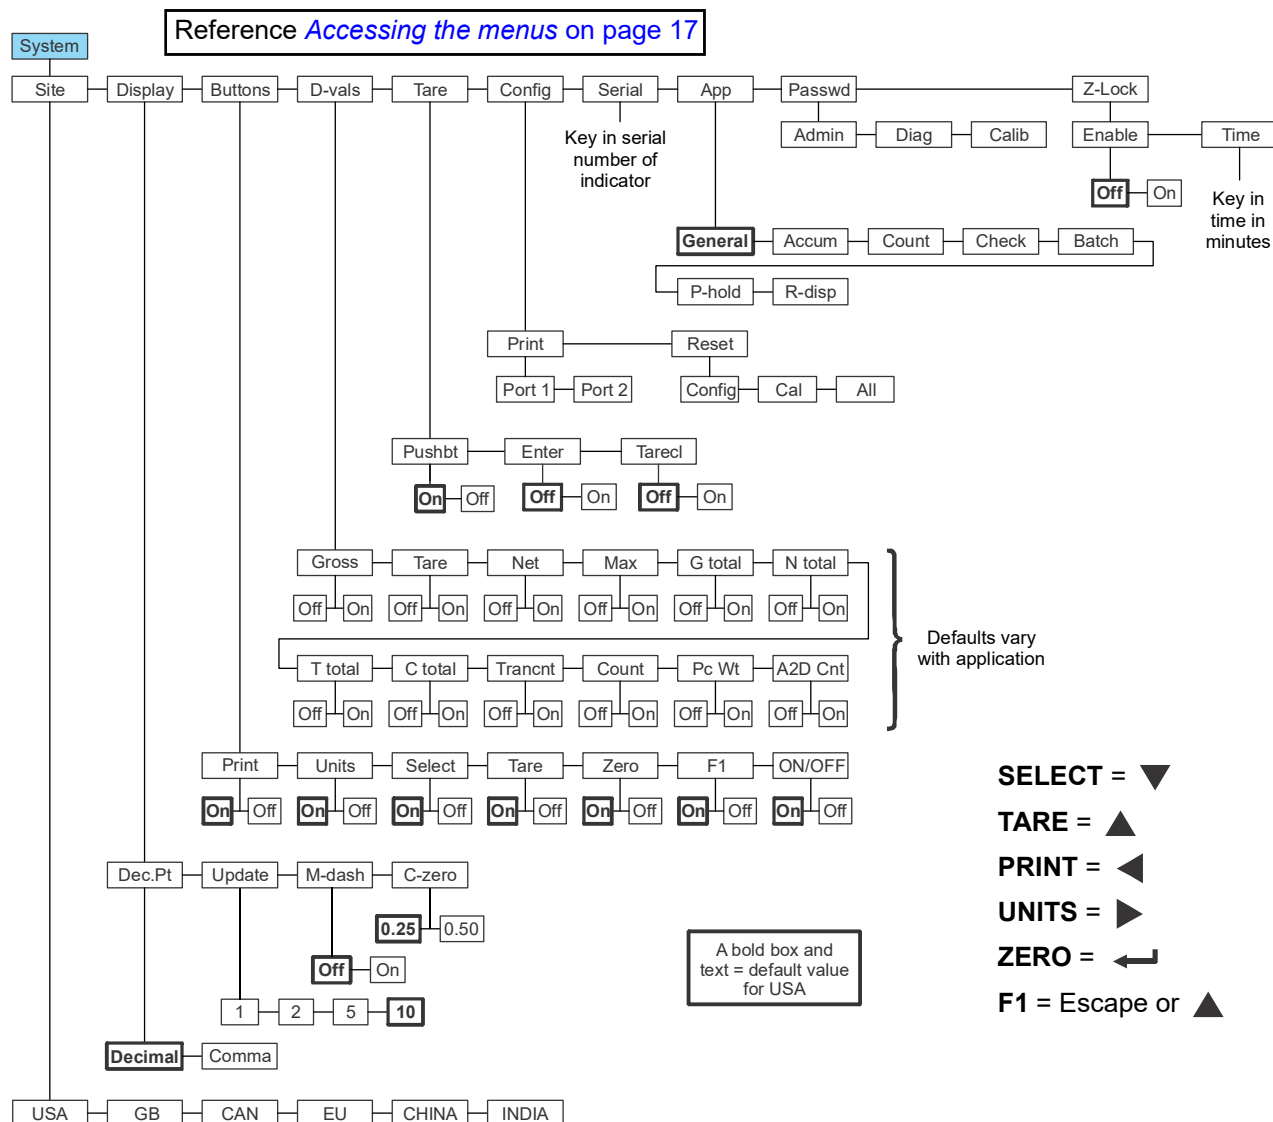

Figure 6.5 System menu
Use the System menu to configure system parameters such as loading defaults for the country of operation, setting available display modes and tare functions, selection of the scale application mode, and several other functions that will be described. Refer to Figure 6.5 as you setup the items of the System menu.
6. Repeat steps 3 through 5 for all the keys you want to change. Refer to the list of buttons in the menu found in Figure 6.5 on page 59. When finished press **TARE ...**